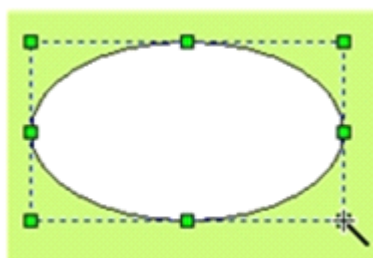

Figure 4-38: Drawing an ellipse/circle
- Move the mouse to another position in the screen, and at this moment the system will draw an ellipse/circle automatically. Then, left click the mouse. See Figure 4-38.